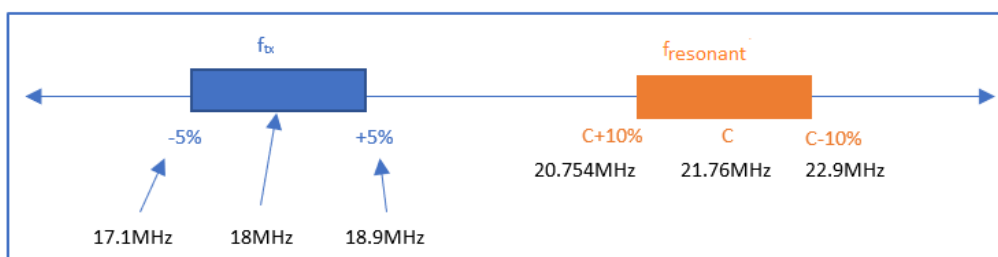

Figure B.1: Inductive Resonant Tank Design
- > Using $\pm 10\%$ tolerance on C_{sel} and $f_{\text{resonant}} = \frac{1}{2\pi\sqrt{L \times C}} = \frac{1}{2\pi\sqrt{1.1 \times 10^{-6} \times C_{sel}}}$, we get the results below and the summary of the result shown in Figure B.1.